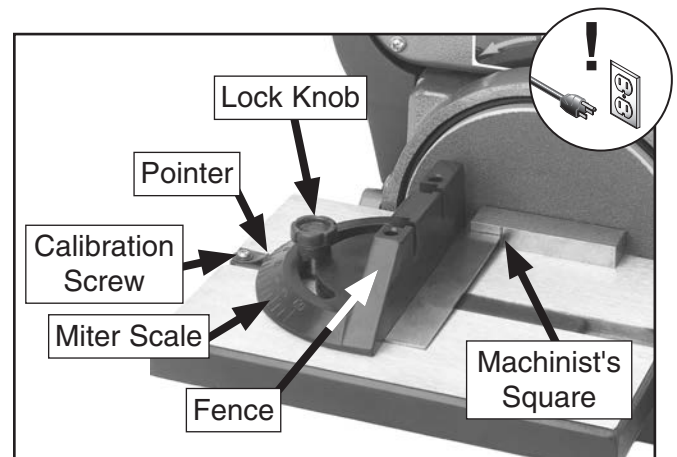

Figure 37. Calibrating miter gauge.
3. Loosen miter gauge lock knob and use a machinist's square with one edge against miter gauge fence and other edge against sanding disc, as shown in **Figure 37**.
5. Pointer shown in **Figure 37** should point to "0" on the miter scale.
6. Loosen calibration screw shown in **Figure 37**, and move pointer so it points to "0" on miter scale, making sure fence remains flush with machinist's square.